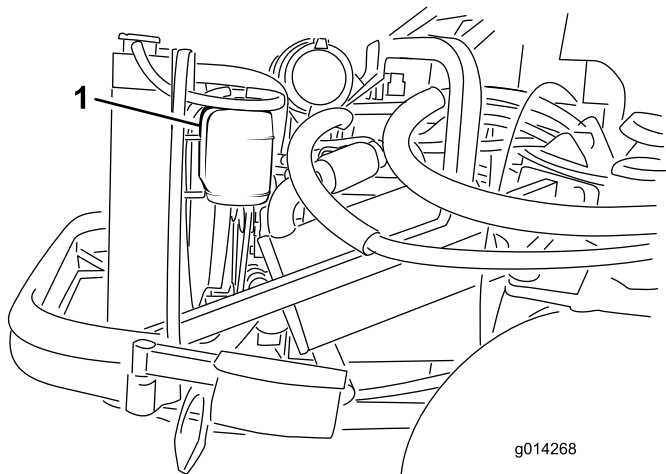

Figure 39
1. Check the level of the coolant in the expansion tank (Figure 39). The coolant level should be between the marks on the side of the tank.